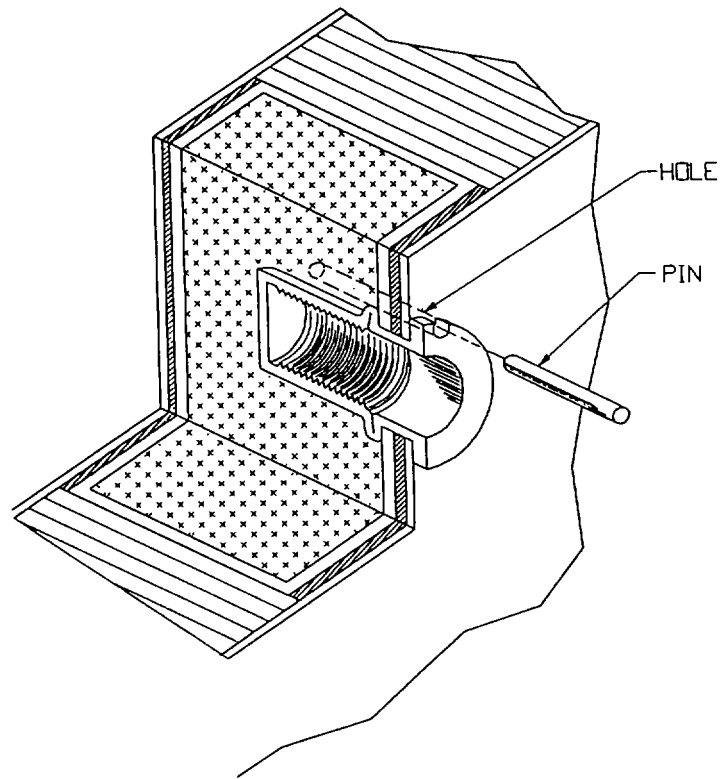

Figure 5-7. Spinning Rivnut Repair
(3) Repair (Figure 5-7). When excessive torque is applied on screws attached on rivnuts, it may cause a rivnut to spin (turn). Table 5-4 provides the maximum torque requirement for hardware to prevent rivnut turning. To correct a spinning rivnut, proceed as follows:
- (a) Drill a .062 (+ .003, - .001) diameter hole by 1.00 inch long on the stem of the spinning rivnut as shown in figure 5-7.